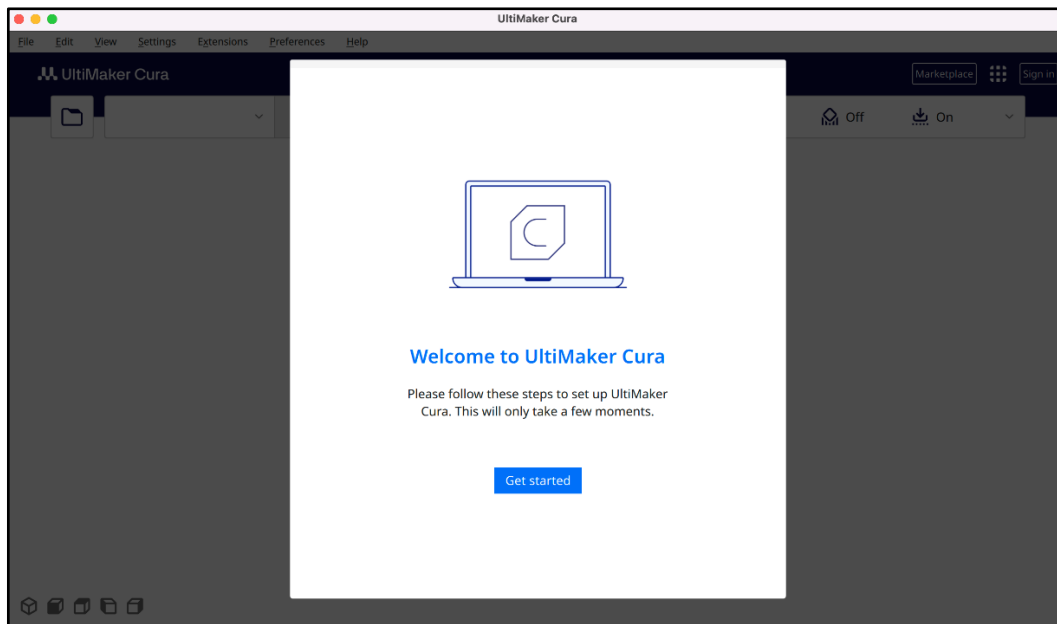

Figure 18: Cura Software Opening
3. Once software installation is complete, open the UltiMaker Cura software (See Figure 18).